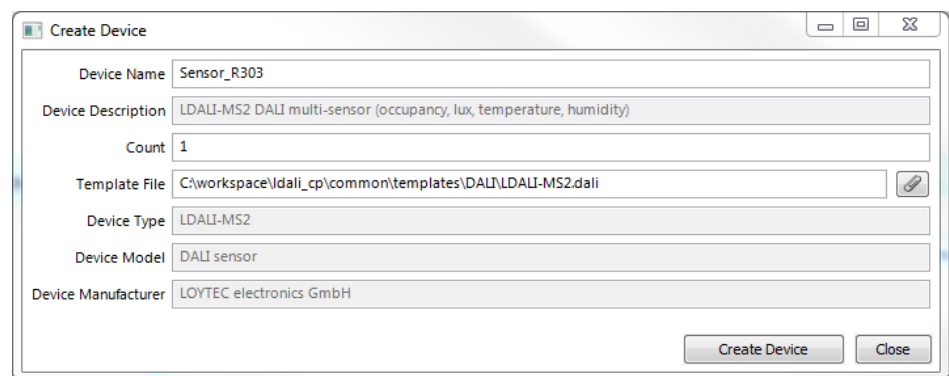

Figure 217: DALI device creation dialog
3. In the **Create Device** dialog enter a Device Name and a Count of devices to be created as shown in Figure 217.